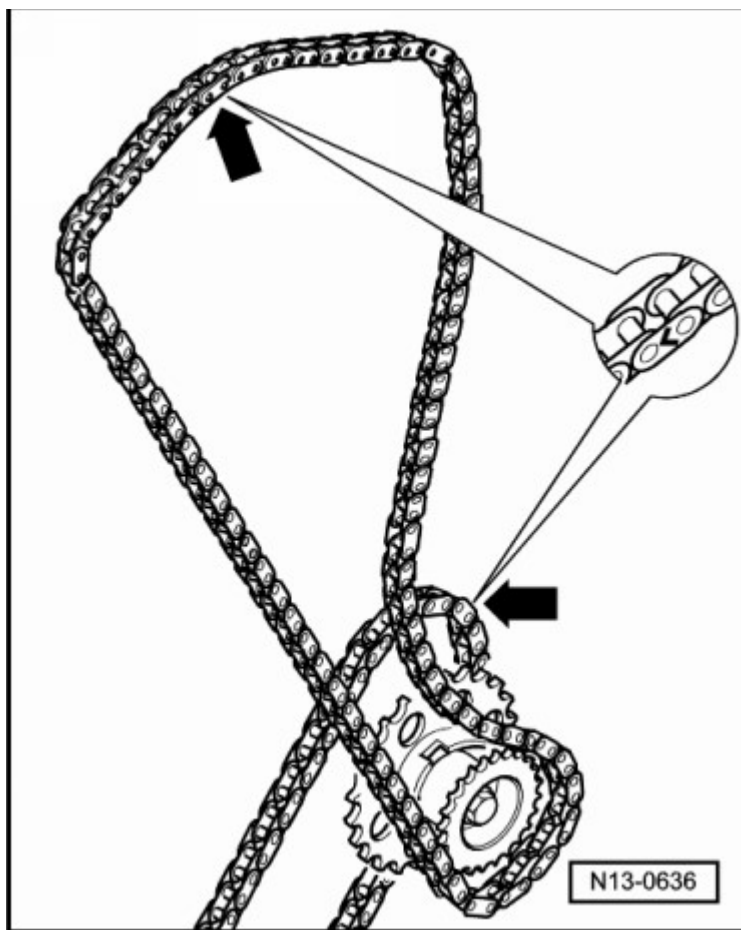

Fig. 9: Identifying Markings On Roller Chains
- Before removing, mark direction of rotation with paint, refer to **Fig. 9**
- Indicate direction of rotation before removing, refer to **Fig. 9**